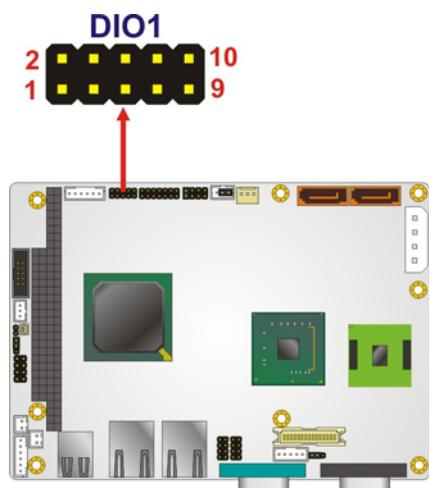

Figure 3-9: Digital I/O Connector Location
**3.2.7 Digital Input/Output (DIO) Connector****CN Label:** DIO1**CN Type:** 10-pin header**CN Location:** See Figure 3-9**CN Pinouts:** See Table 3-9